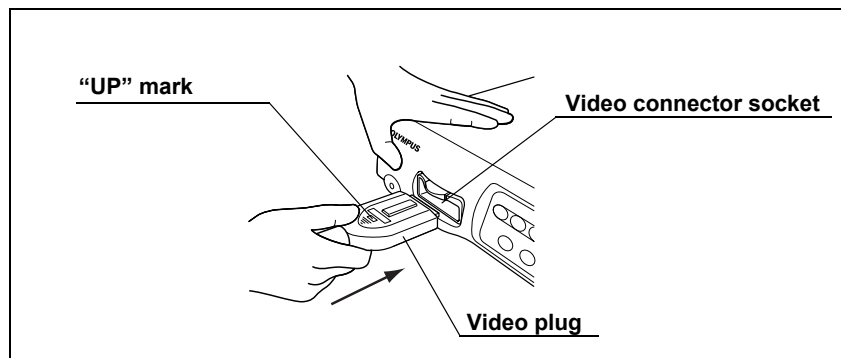

Figure 4.3
3. Push the video plug into the video connector socket of the instrument all the way until it clicks, holding this instrument with a hand so that it will not move. Confirm that the "UP" mark points upwards (see Figure 4.3).
3. Push the video plug of the scope cable EXERA II into the video connector socket of the instrument all the way until it clicks, holding this instrument with a hand so that it will not move. Confirm that the "UP" mark points upwards (see Figure 4.3).
3. Push the video plug of the camera head into the video connector socket of the instrument all the way until it clicks, holding this instrument with a hand so that it will not move. Confirm that the "UP" mark points upwards (see Figure 4.3).